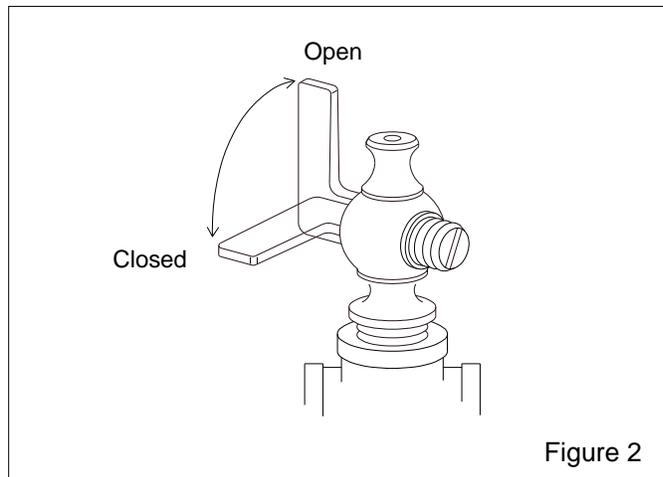

Figure 2
**3.2.2** Make sure that the safety petcock located on the inlet valve is open. The petcock is open when the petcock lever is in-line with the petcock, as shown in Figure 2.